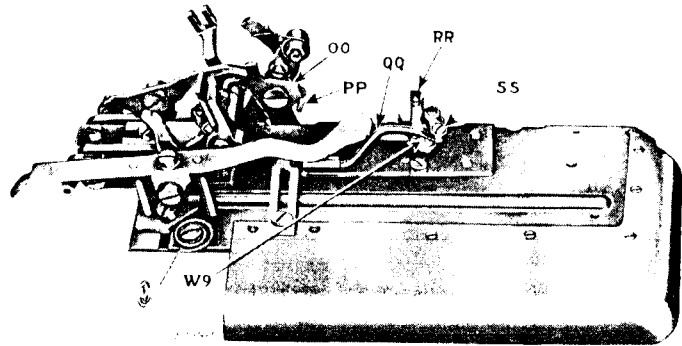

Fig. 42. Adjustments on Needle Thread Trimming Mechanism (Upper)
Remove the screw (SS, Fig. 42) from the connecting rod, then remove the clamp check thread clamping section (RR, Fig. 42)
When replacing the blades, first place the clamping blade next to the clamping section, then put on the cutting blade and securely fasten both blades in position by means of the screw (237) and then securely fasten the clamping section to the clamp check by means of screw (W9, Fig. 42). Next replace the screw (SS, Fig. 42).
When the clamp check is in position on the machine, the back edge of the thread cutting and clamping blades should be flush with the cutting edge of the opening in the clamp check. The blades can be set in this position by removing the screw (SS, Fig. 42) in the end of the connecting rod (QQ, Fig. 42) and turning the connecting rod over to the right to draw the blades into the clamp check or over to the left to draw the blades out of the clamp check, after which replace and securely tighten the screw (SS) in the end of the connecting rod. Care should be taken to see that the blades open just enough to permit the latch (PP, Fig. 42) to drop freely into the notch of the thread cutting blade operating lever (OO, Fig. 42).